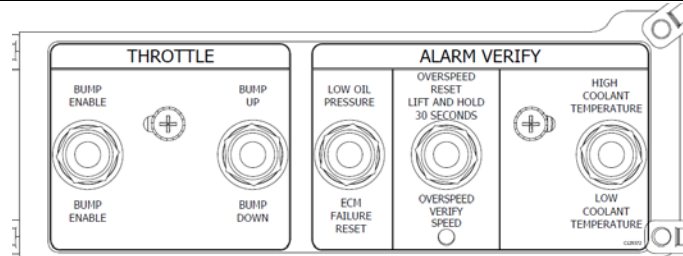

Figure 1 – Clarke panel internal verification switch plate
- Hold the OVERSPEED VERIFICATION SWITCH in the “down” position located on the switch plate inside of the Clarke panel (see Figure 1). This will provide the main pump controller with an overspeed signal and engine shutdown at 30 RPM’s below the rated RPM.
- With the engine running from the main pump controller, lift the LOW OIL PRESSURE VERIFY SWITCH in the “up” position located on the switch plate inside of the Clarke panel (see Figure 1). The oil pressure signal will be defaulted to less than 20 psi and can be seen on the engine diagnostic gauge. (Note: There is no engine mounted Low Oil Pressure switch to jumper across).
- With the engine running from the main pump controller, lift HIGH ENGINE COOLANT TEMPERATURE VERIFY SWITCH in the “up” position located on the switch plate inside of the Clarke panel (see Figure 1). The coolant temperature signal will be defaulted to greater than 240°F and can be seen on the engine diagnostic gauge. (Note: There is no engine mounted High Coolant Temperature switch to jumper across).
- Place BOTH ECMs back into service by activating the ECM FAILURE RESET SWITCH, located on the interior switch plate of the engine instrument control panel (See Figure 1), for 3 seconds.
- With the engine NOT running (0 rpm), hold the low engine coolant temperature switch in the “down” position located on the switch plate inside of the Clarke panel (see Figure 1). The coolant temperature signal will be defaulted to less than 90°F and can be seen on the engine diagnostic gauge. (Note: There is no engine mounted Low Coolant Temperature switch to jumper across).
- Lift and hold the OVERSPEED RESET SWITCH, located on the internal verification switch plate, for 5 seconds prior to initiating the 6 crank cycles from the fire pump controller (see Figure 1). The switch can be released, after the 5 second hold, for the duration of the test. **NEVER** shut off the fuel supply to the engine to prevent it from starting. Shutting off the fuel supply will cause an air lock condition in the fuel system and possibly cause fuel system component damage.